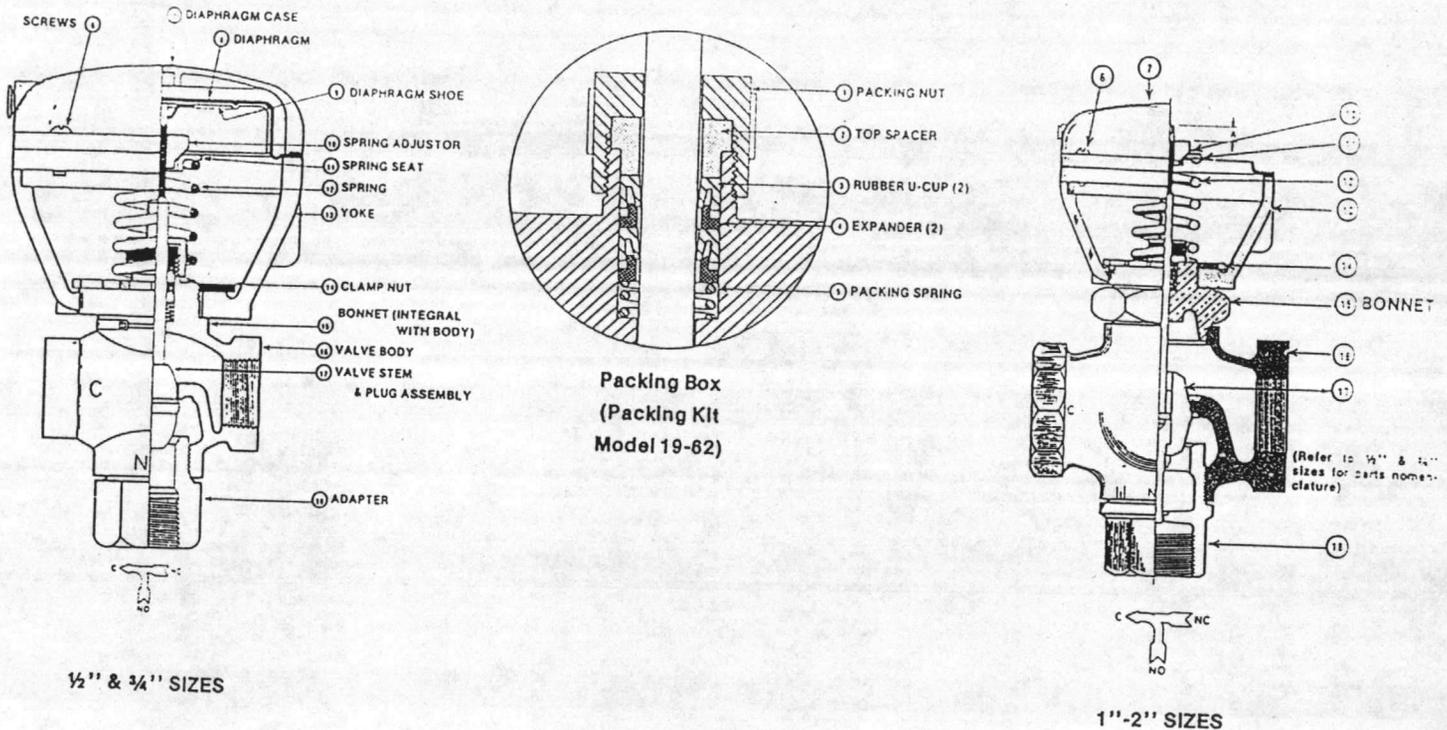

FIGURE 2-V66 VALVE ASSEMBLY
- The **span** (or **throttling range**) of the positioner (signal pressure change required to produce full stroke) may be adjusted by inserting a small screwdriver through an opening in the positioner cover (see Figure 2) and turning the slotted "span adjusting screw" until full stroke is obtained for the desired units of pressure change.
- The stroke **start point** of the positioner is adjusted by setting the signal pressure to the desired value and turning the "start point adjusting nut" (see Figure 2) with an open end wrench until the valve stem begins to move from its "normal" (zero pressure) position.